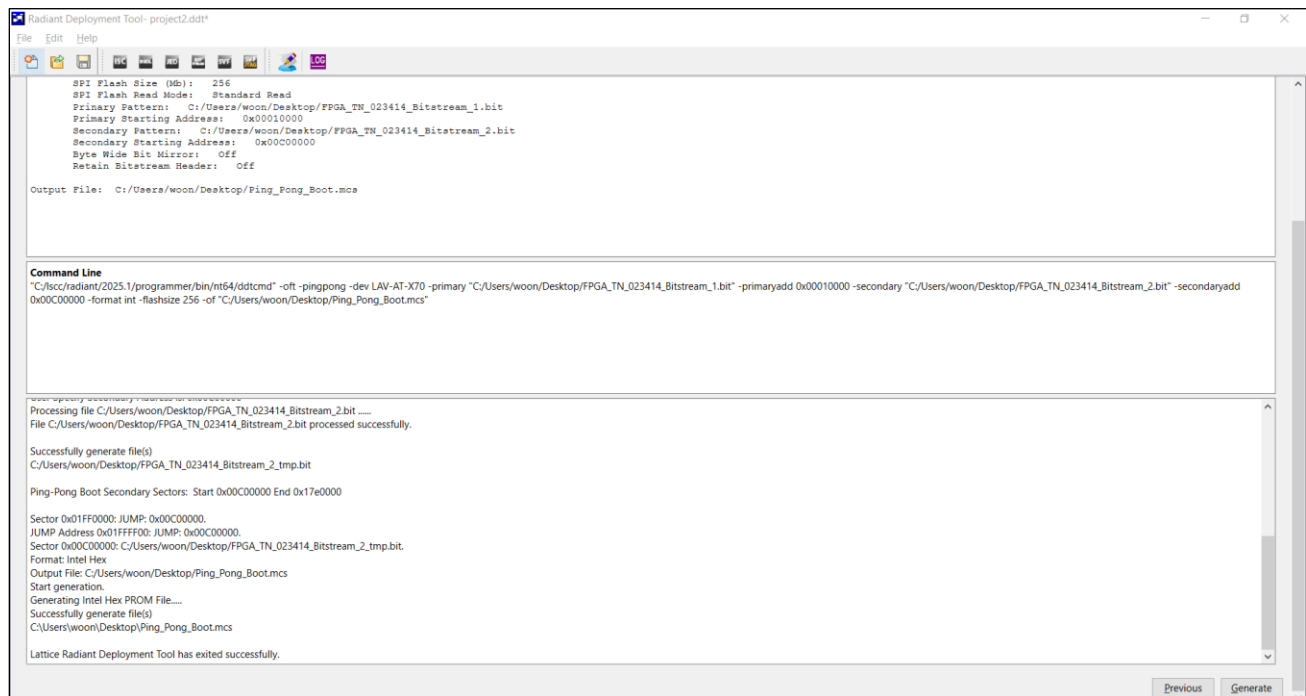

Figure 7.10. Generate Deployment Window
Step 4 of 4: Generate Deployment window (Figure 7.10).